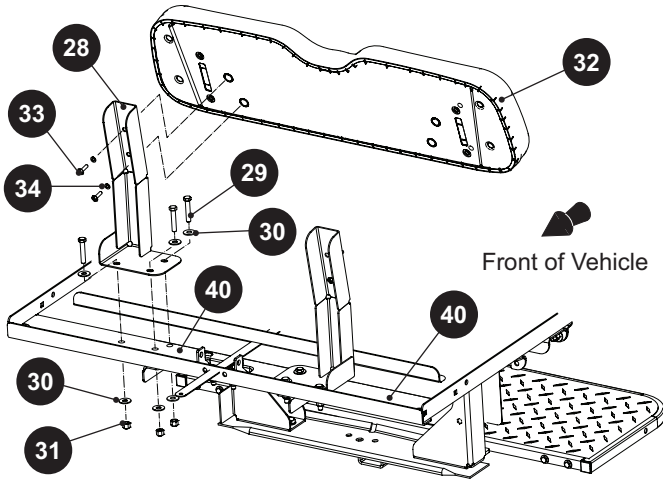

Fig. 3 Flip Seat Back Removal
- Remove the bolts (33) and lock washers (34) fastening the seat back (32) to the seat back bracket (28).
- Remove the lock nuts (31), flat washers (30), and bolts (29) to remove the seat back brackets.
- Remove the deck board fillers (40) (Ref. Fig. 3).